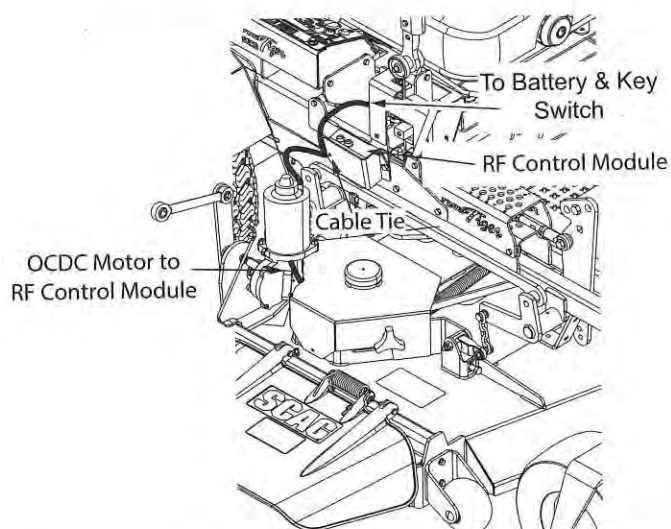

Figure 3-27. E-OCDC Wire Harness Installation
4. Using a cable tie, retain the wires from the RF control module to the hole in the RF control module guard. See Figure 3-27.
5. Locate the "A" terminal on the key switch and install the green wire from the E-OCDC harness to the key switch. See Figure 3-27.
6. Plug the EOCD main wire harness into the RF control module. See Figure 3-27. **DO NOT** plug the EOCD motor harness into the RF control module at this time, this may cause movement of the linkages.